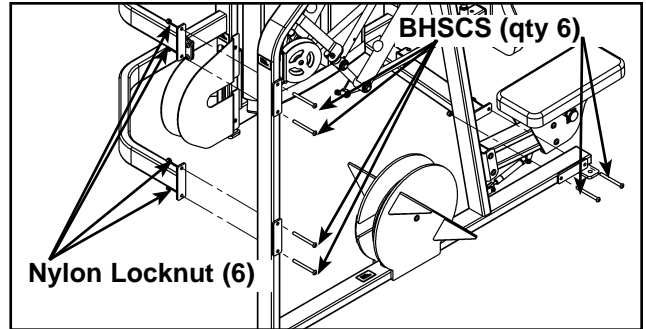

Figure 6
- O. With an assistant, carefully remove the six BHSCS securing the two halves of the frame. See Figure 6.
- R. With an assistant, carefully attach each half together using the six BHSCS removed in step 4O. See Figure 6.